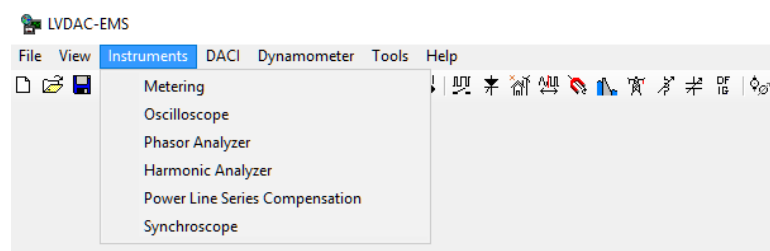
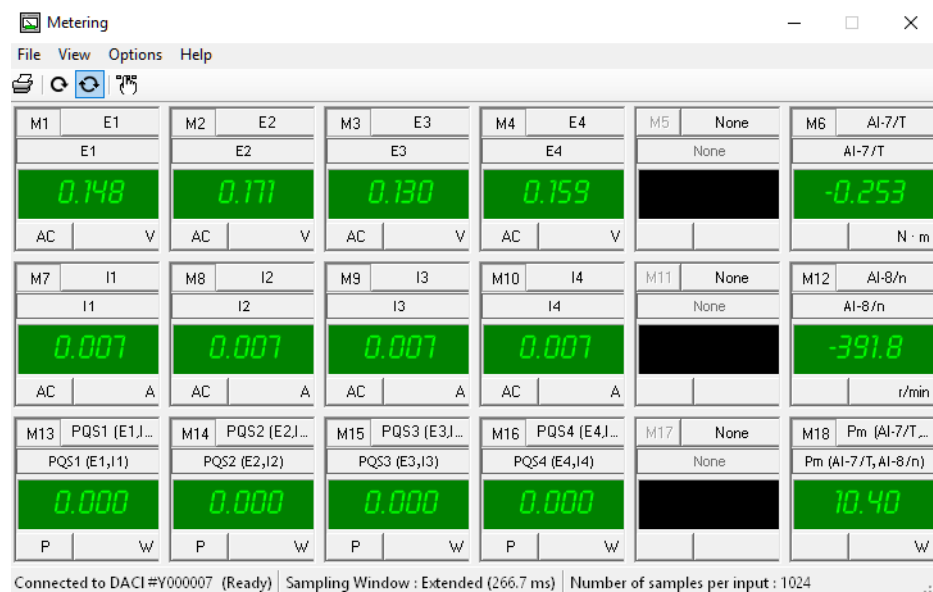

Figure 7: To start a computer-based instrument, select it from the Instruments menu of LVDAC EMS or click the corresponding Toolbar button.
Figure 8: When the Metering instrument is started, the Metering window appears.
8. To start a computer-based instrument implemented with the DACI, select it from the Instruments menu of LVDAC-EMS (see Figure 7), or click the corresponding Toolbar button. The selected instrument then appears on the screen. For example, Figure 8 shows the window that appears when the Metering instrument is started.